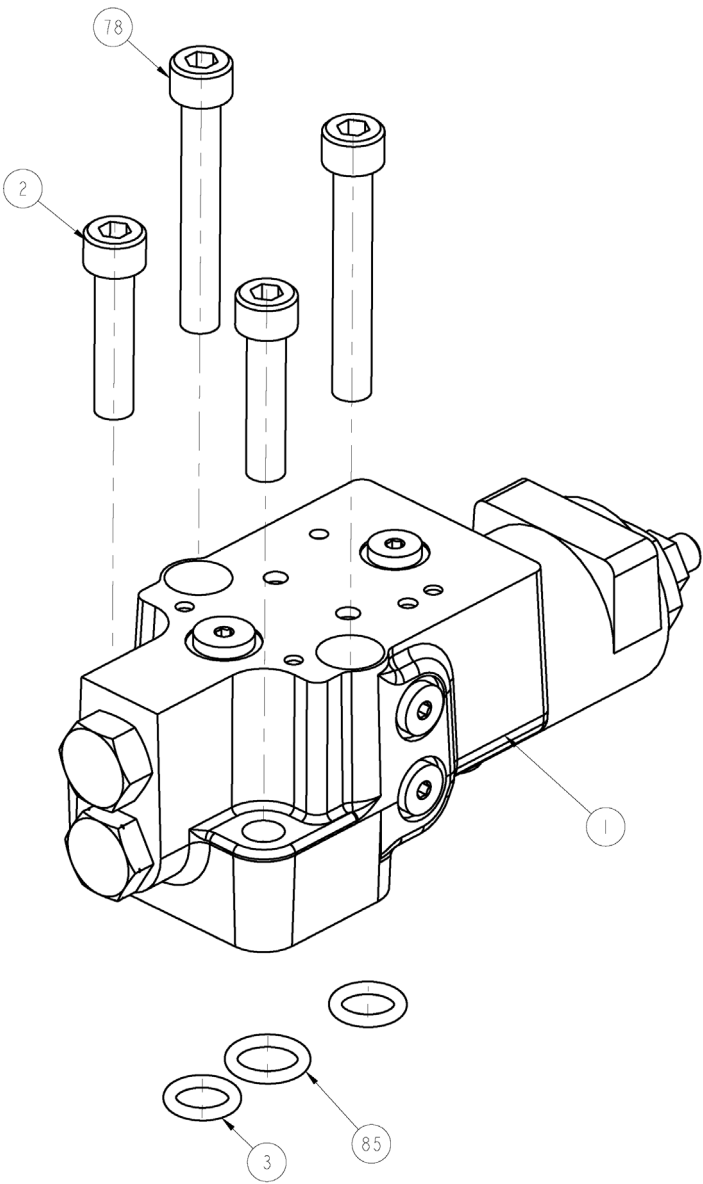

Figure 24
3. Remove the screw plug assembly (Figure 24, ①⑧).
4. Take out the compensator valve core (Figure 24, ②).
5. Remove the screw plug assembly (Figure 24, ⑤⑥⑦⑧), and take out the spring seat (Figure 24, ③), the compensator spring (Figure 24, ④) and the limit pin (Figure 24, ⑨).
6. Remove the screw plug assembly (Figure 24, ①⑥⑧), and remove the damping plug (Figure 24, ⑫).
7. Remove the screw plug assembly (Figure 24, ⑭⑮), and remove the damping plug (Figure 24, ⑬).
8. Remove the screw plug assembly (Figure 24, ⑩⑪).
1. Install the compensator valve core (Figure 24, ②).
2. Install the screw plug assembly (Figure 24, ①⑧), and tighten the screw plug with a torque of 29-32 Nm.
3. Install the spring seat (Figure 24, ③), the compensator spring (Figure 24, ④) and the limit pin (Figure 24, ⑨).
4. Install the screw plug assembly (Figure 24, ⑤⑥⑦⑧), and tighten the screw plug with a torque of 75-83 Nm.
5. Install the damping plug (Figure 24, ⑫), and tighten it with a torque of 1.7-2.3 Nm.
6. Install the screw plug assembly (Figure 24, ①⑥⑧), and tighten the screw plug with a torque of 29-32 Nm.
7. Install the damping plug (Figure 24, ⑬), and tighten it with a torque of 5.1-5.9 Nm.
8. Install the screw plug assembly (Figure 24, ⑭⑮), and tighten the screw plug with a torque of 12.1-12.4 Nm.
9. Install the screw plug assembly (Figure 24, ⑩⑪), and tighten the screw plug with a torque of 9.8-10.2 Nm.